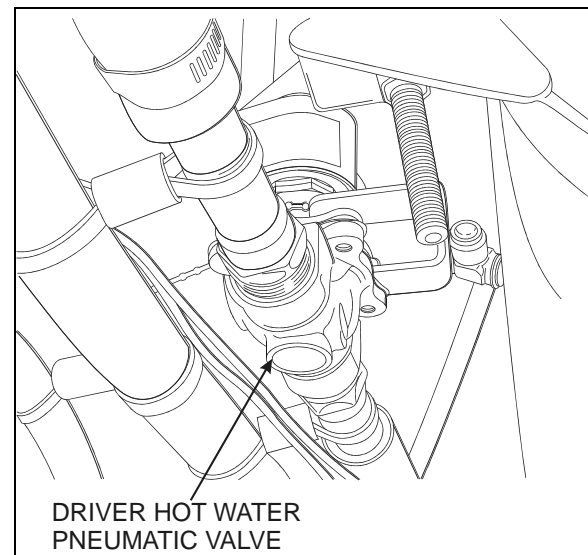
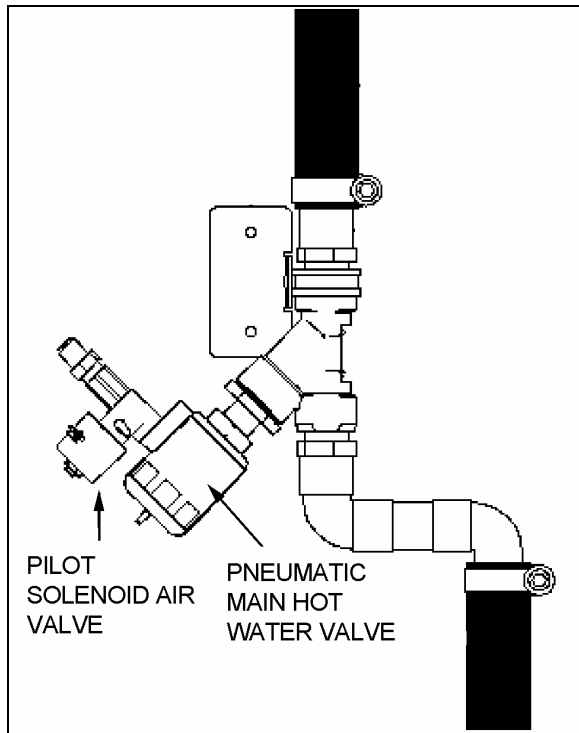
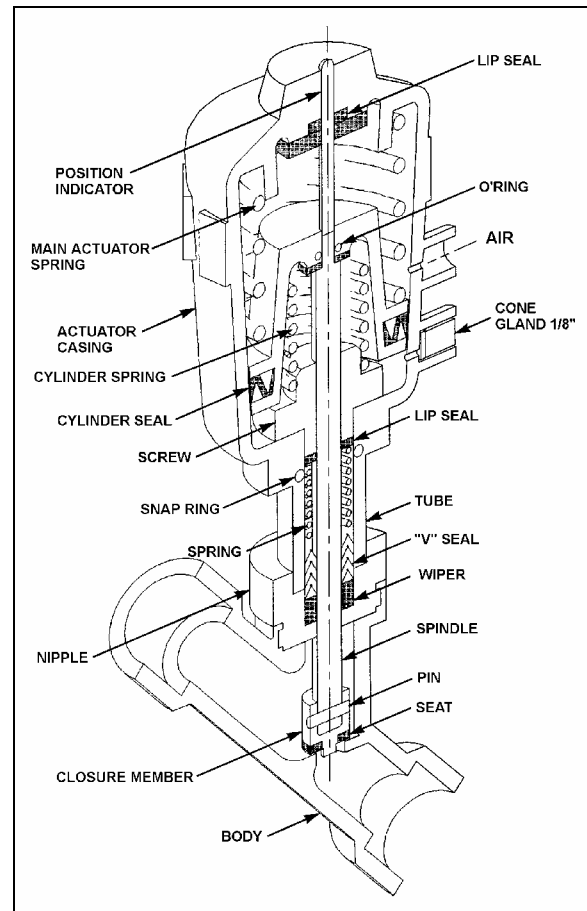

FIGURE 31: CEILING OF SPARE WHEEL COMPARTMENT (VALVE MAY DIFFER FROM IMAGE)
FIGURE 36: MAIN HOT WATER PNEUMATIC VALVE ASSEMBLY
FIGURE 37: MAIN HOT WATER PNEUMATIC VALVE 22241
2. Locate the normally open hot water pneumatic valve on the ceiling of the spare wheel compartment (Figure 31), disconnect its wiring connector, then connect a 24-volt external power source, using jumper cables, to close valve.
The flow of hot water to the vehicle's central heater core is controlled by a NO pneumatic water valve assembly (Figure 36). The valve, located in the evaporator compartment, is designed so that the pilot solenoid valve, which is part of the assembly, opens and closes a port which directs air pressure to the actuator casing, thereby opening or closing the valve.
2. The water valve need not be removed from the line. Unscrew nipple, the actuator casing, tube, spindle and closure member can be removed (Figure 37).
2. Tighten the nipple in place in the body cavity as per Figure 37. Fasten pilot solenoid valve to the pneumatic water valve. Reconnect air supply pressure and electrical current to the pilot solenoid valve.
The flow of hot water to the driver's heater core is controlled by a pneumatic valve like the main hot water pneumatic valve. It is mounted on the coolant inlet line of the driver's heating unit, and is accessible through the spare wheel compartment (see Figure 31, Figure 36 & Figure 37). For more information, refer to paragraph 8.5 to 8.5.3.